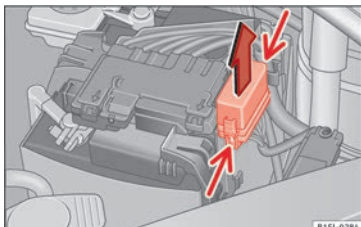

Fig. 83 In the engine compartment: fuse box cover.
- Press the attachment tabs in the direction indicated by the arrow (thin arrows) to release the fuse box cover » **Fig. 83**.